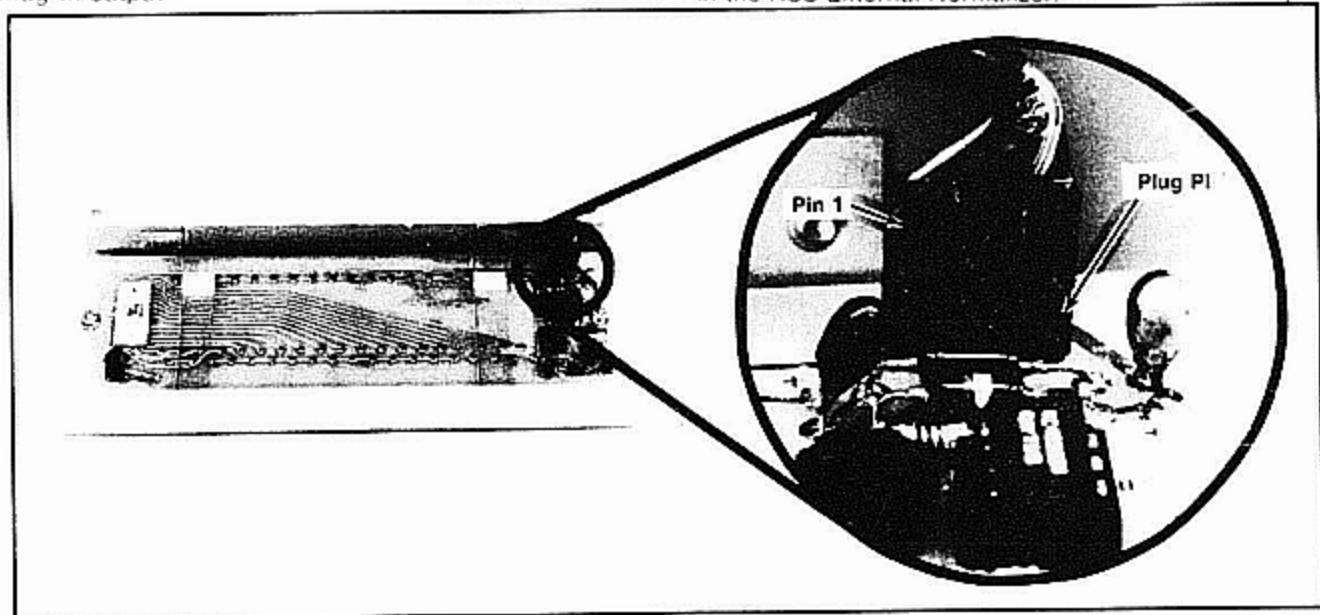

Fig. 8. Location of Plug P1.
c. Connect the probe tip to pin 1 of plug P1 (see Fig. 8) in the RSS External Normalizer.